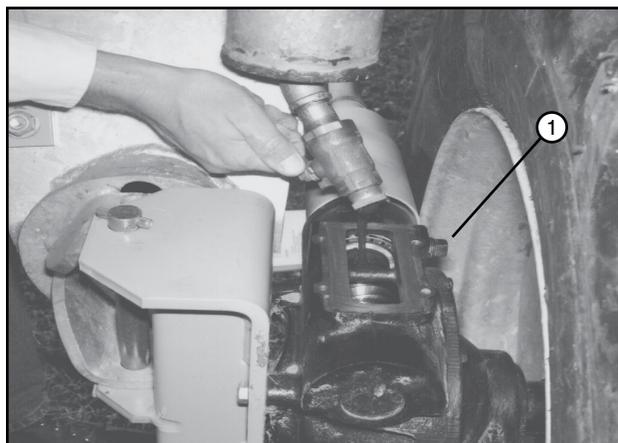

Figure 66-3 1. Check Plug
- Fill gearbox to the top of worm gear shaft or remove the check plug and fill until the oil begins to flow out of the check plug hole. See Figure 66-3.